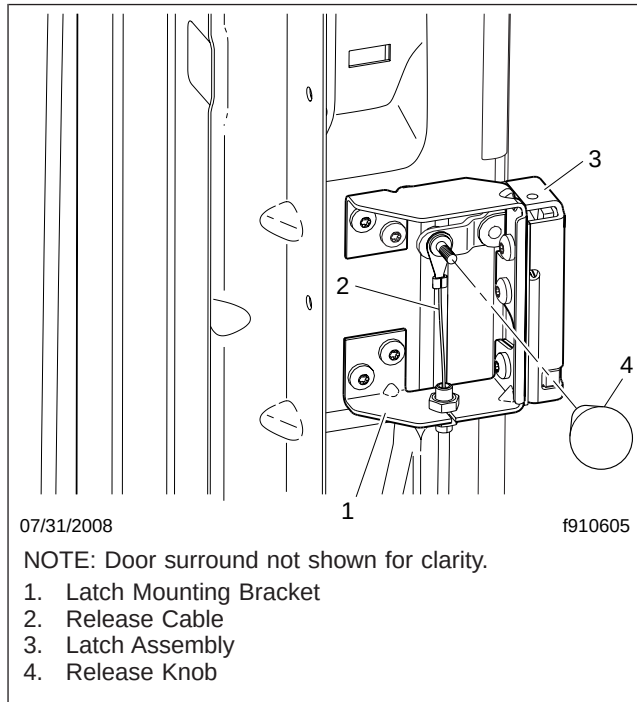

Fig. 1, Sleeper Compartment Exit Door Latch Installation
5. Unscrew the latch release knob from the latch stud; see Fig. 1.
10. Attach the new latch assembly to the latch mounting bracket, using the three Torx screws; see Fig. 1.